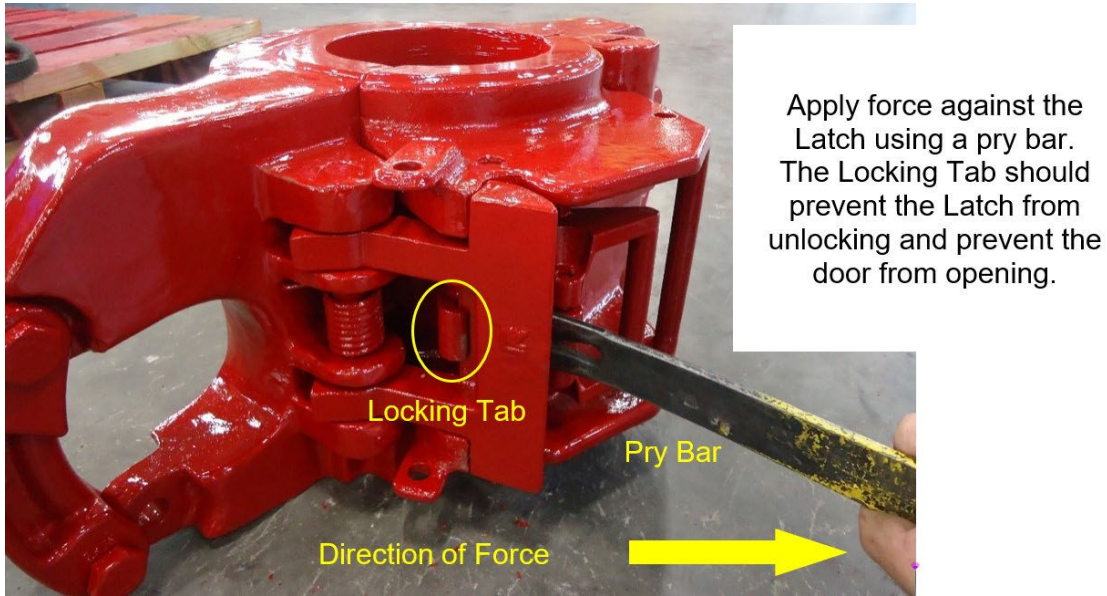
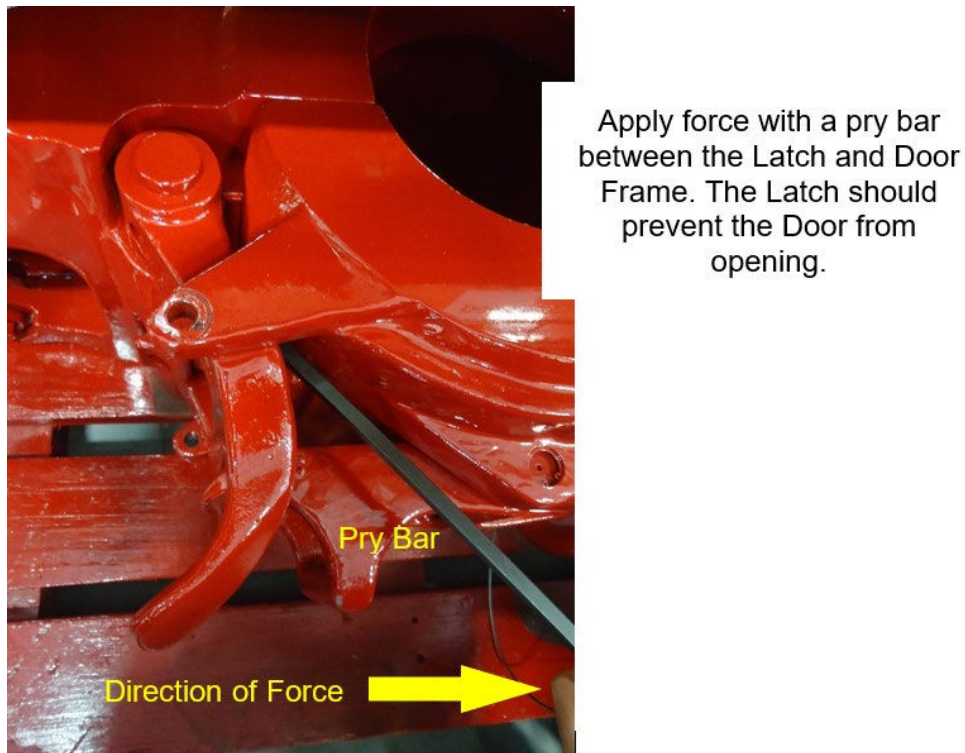

Figure 5
Figure 6
- 2. Try to open the latch by prying the latch between body and latch with a steel bar or screwdriver – the latch lock prevents the latch from being opened (Figure 5 or Figure 6). If the elevator opens during pry test, pull from operation, and repair or replace, as necessary.